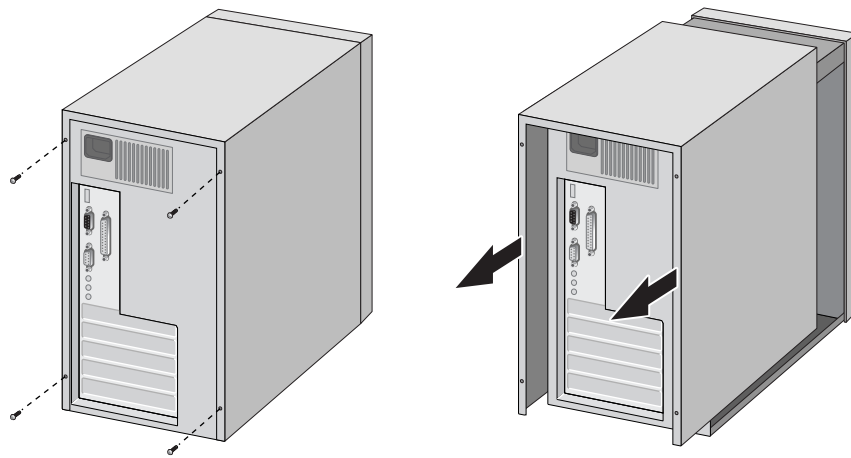

Figure 1 Removing the PC Cover
2. Remove the PC's cover by removing the screws from the chassis and gently sliding off the cover. See Figure 1.